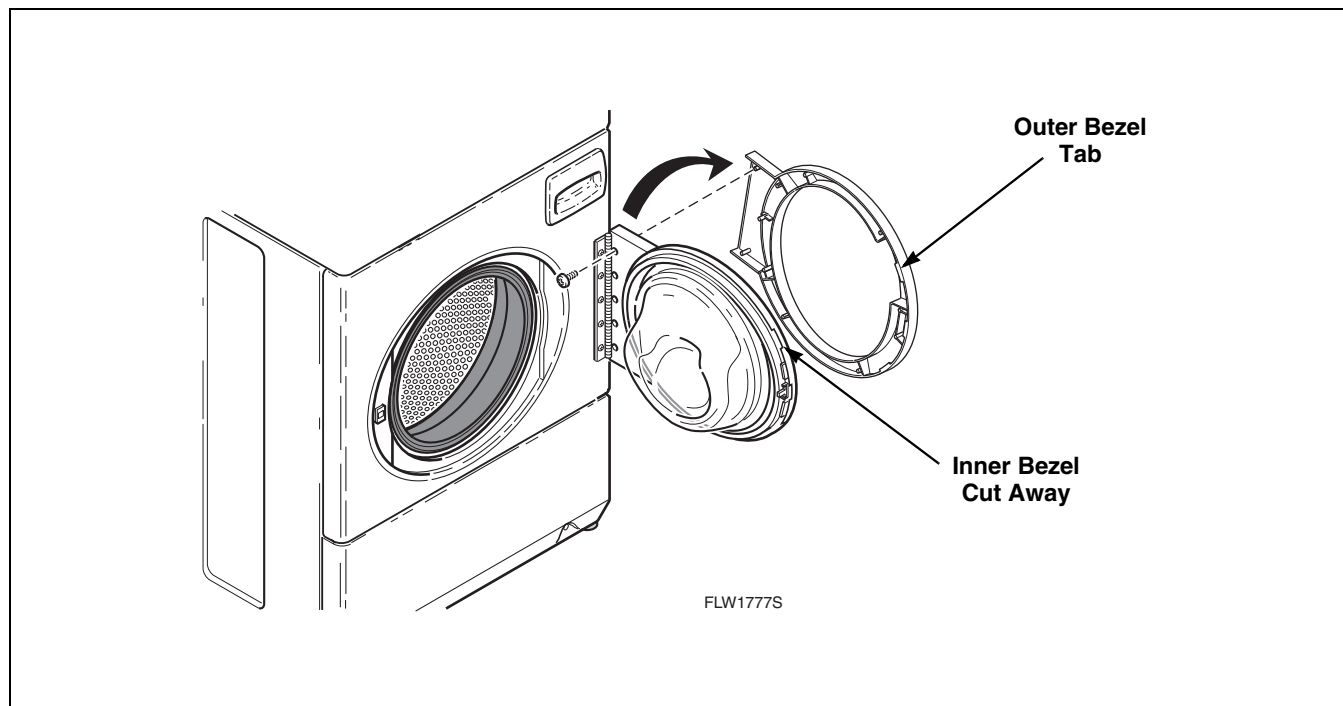

Figure 16
- b. Remove 11 T-20 Torx head screws holding outer door bezel to inner door bezel. Refer to *Figure 16*.
- c. Pull hinge side of outer bezel away from door and slide forward. Refer to *Figure 16*.
- j. Reinstall outer door bezel by aligning outer bezel tabs with cut aways on inner bezel and sliding outer bezel into position. Refer to *Figure 16*.